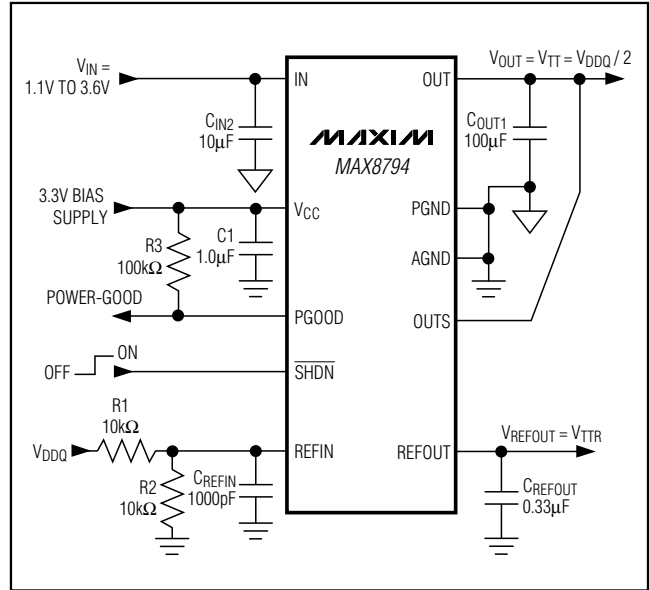

Figure 1. Standard Application Circuit
($V_{IN} = 1.8V$, $V_{CC} = 3.3V$, $V_{REFIN} = V_{OUTS} = 1.25V$, $\overline{SHDN} = V_{CC}$, circuit of Figure 1, $T_A = -40^{\circ}C$ to $+85^{\circ}C$, unless otherwise noted. Typical values are at $T_A = +25^{\circ}C$.) (Note 1)
(Circuit of Figure 1. $T_A = +25^\circ\text{C}$, unless otherwise noted.)
The MAX8794 is a low-voltage, low-dropout DDR termination linear regulator with an external bias supply input and a buffered reference output (see Figures 1 and 2). V_{CC} is powered by a 2.7V to 3.6V supply that is commonly available in laptop and desktop computers. The 3.3V bias supply drives the gate of the internal pass transistor, while a lower voltage input at the drain of the transistor (IN) is regulated to provide V_{OUT}. By using separate bias and power inputs, the MAX8794 can drive an n-channel high-side MOSFET and use a lower input voltage to provide better efficiency.
The MAX8794 regulates OUTS to the voltage set at REFIN, making the MAX8794 ideal for memory applications where the termination supply must track the supply voltage. Typically, REFIN is set by an external resistive voltage-divider connected to the memory supply (V_{DDQ}) as shown in Figure 1.